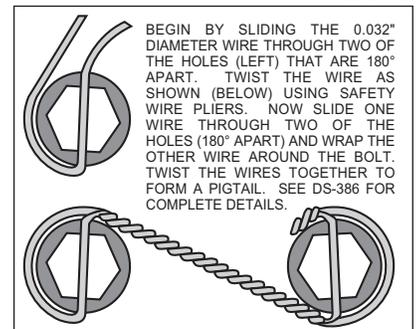

Figure 3. Safety Wire Diagram
- The caliper mount bracket assembly (1) should be installed first with clean, dry threads on the mounting bolts. Install the bracket by sliding bolt (4) through lock washer (2) from the back side through the lower caliper mounting ear on the spindle. Slide bolt (3) through lock washer (2) from a 90° degree angle on the upper portion of the steering arm. The bracket must tighten squarely against the outboard side of the caliper mount bosses on the spindle body. Inspect for interference from casting irregularities, machining ridges, burrs, etc. Later, after the caliper, pad, and rotor alignment has been checked, and any necessary shims have been put in place, the threads of the mounting bolts should be coated with red *Loctite*® 271 and torqued to 65 ft-lbs.
- Install wheel studs (5) into the hub (6). Torque to 77 ft-lb. **NOTE:** There are two (2) five lug patterns in the hub (5 x 4.50 and 5 x 4.75). Make sure of the correct hole pattern for the correct wheel application before installing studs into hub.
- Pack the large inner bearing cone (7) with high temperature disc brake bearing grease (available from your local auto parts store) and install into the backside of the hub (6).
- Install the grease seal (8) by pressing into the backside of the hub (6).
- Pack the small outer bearing cone (14) with high temperature disc brake bearing grease and install into front of hub (6). Slide the hub assembly (5, 6, 7, 8 and 14) onto the spindle. Secure using spindle washer (15), stock adjusting nut and nut locking device. Adjust wheel bearing pre-load per Original Equipment manufacturer (OEM) specifications.
- Install the o-ring (16) on the dust cap (17), and screw dust cap assembly onto the hub (6). Friction created by the o-ring (16) on the dust cap (17) keeps it from unscrewing.
- With the larger I.D. side of the rotor (9) facing away from the hat (10), bolt rotor (9) to hat(10) through the backside of the rotor using washers (11) and bolts (12). Torque bolts (12) to 85 **in-lb**. Safety wire bolts (12) using standard 0.032 inch diameter stainless steel safety wire as shown in Figure 3. Please refer to Wilwood's data sheet DS-386 (available at www.wilwood.org/ds386.pdf) for complete safety wire installation instructions.
- Slide the rotor/hat assembly over the studs (5) in the hub (6) taking care to align the small countersunk holes in the hat (10) with the small threaded holes in the hub (6). Install three flat head socket head screws (13) through the small holes in the hat (10) and torque to 85 **in-lb**.